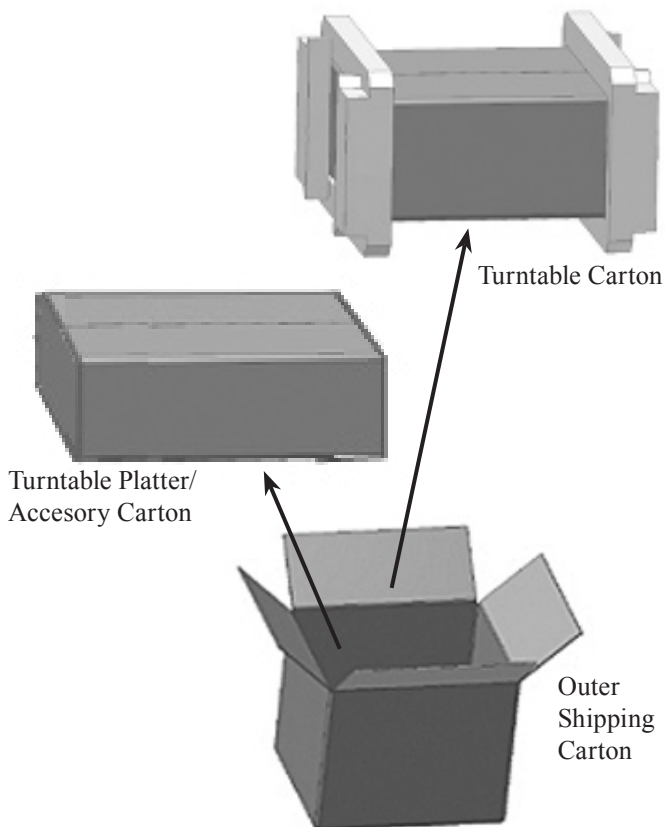

Figure 1
1. After opening the outer shipping carton, carefully remove the turntable inner carton (which has two foam end caps) and the turntable platter/accessory inner carton. Refer to figure 1.